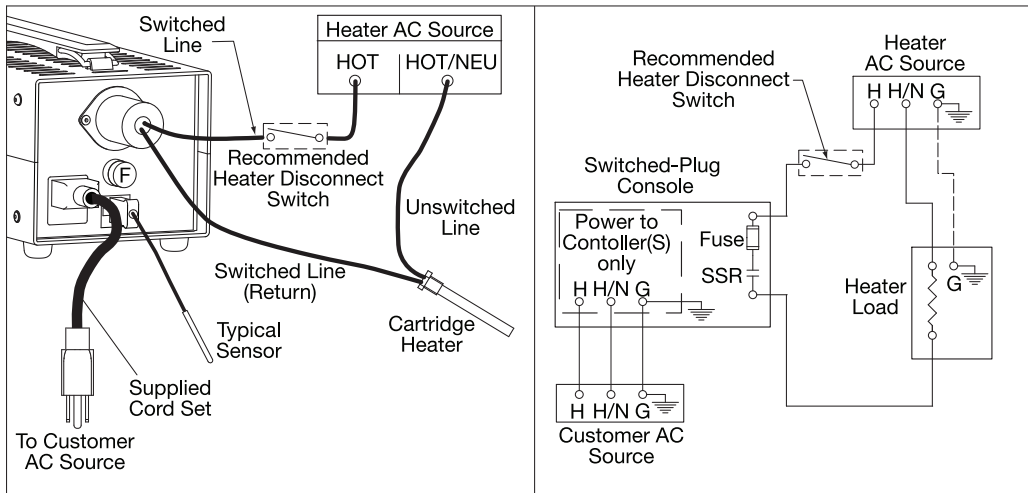

Figure 1. Application Wiring Example (single-zone shown)
2. Power for your heater(s) is NOT sourced directly thru the console line cord. Refer to **Figure 1. Application Wiring Example** on the next page. The heater(s) must be wired to their own independent power circuit by a qualified electrician. **Do not use the pin marked “W”. This is not a grounding pin.**